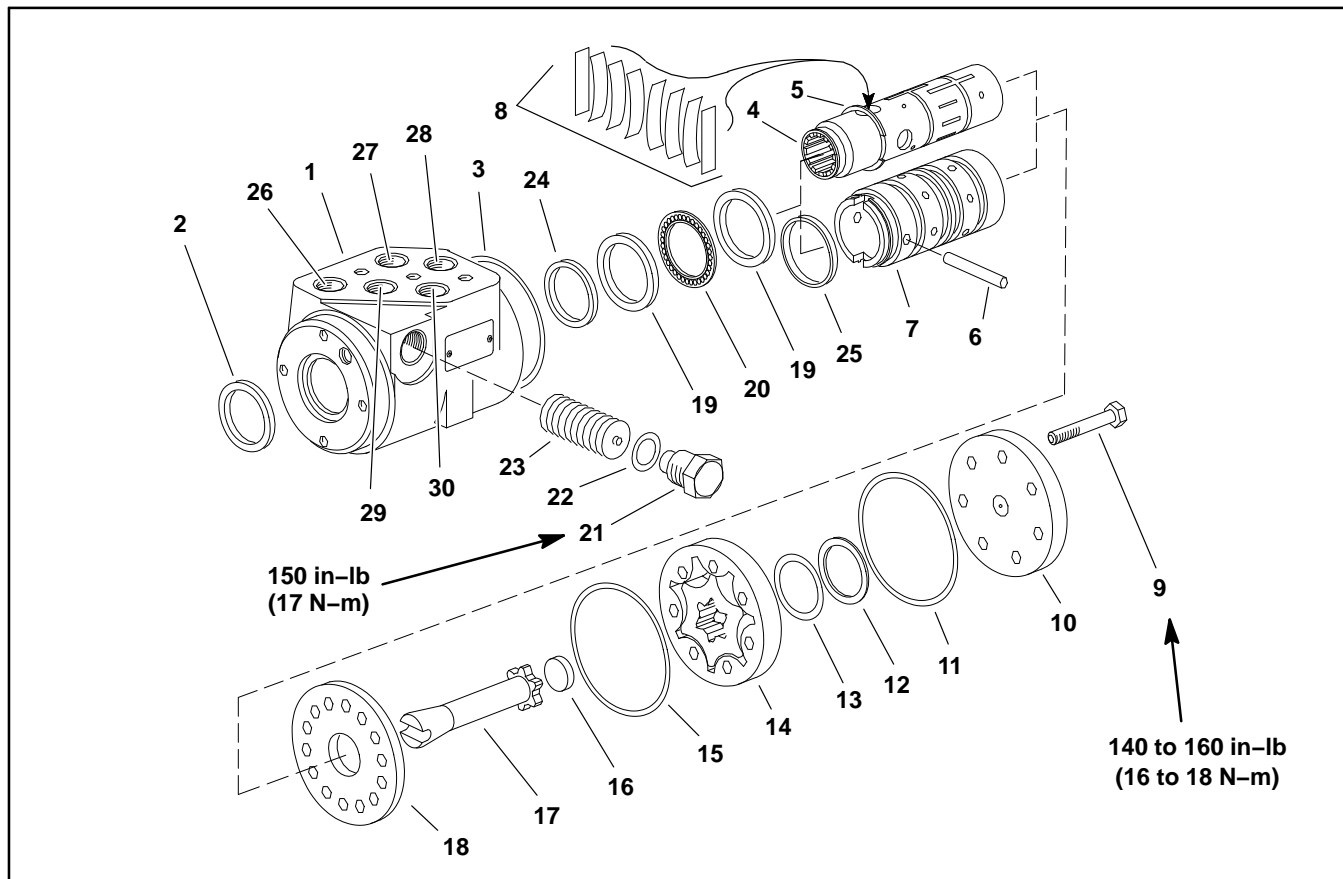

Figure 137
Disassembly (Fig. 137)
1. Remove the seven (7) cap screws from the steering valve assembly.
2. Remove end cap, geroter, spacer, geroter drive, wear plate, seal ring, and O-rings from housing (Fig. 137).
5. Remove the thrust bearing and bearing races (2).
Assembly (Fig. 137)